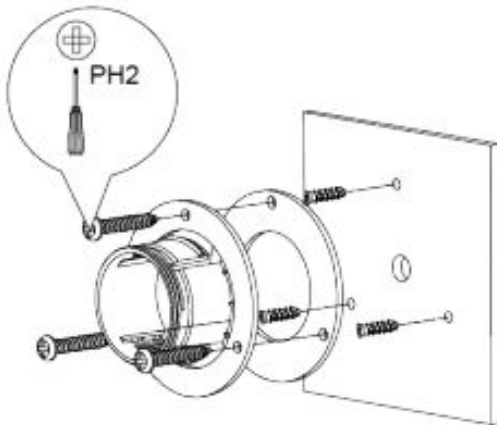

Figure 2-5
Step 2 Install the mount with the included expansion and mounting screws. See Figure 2-5